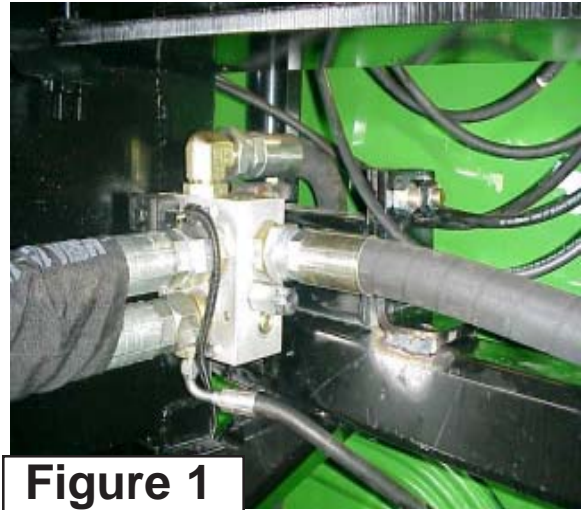

Figure 1
1. Cutter Motor Control Valve Asy. Install the Cutter Motor Control Valve Asy to the LH side of High Frame, it will not have the Hoses attached as shown, the Hoses will be connected later (See Figure 1)